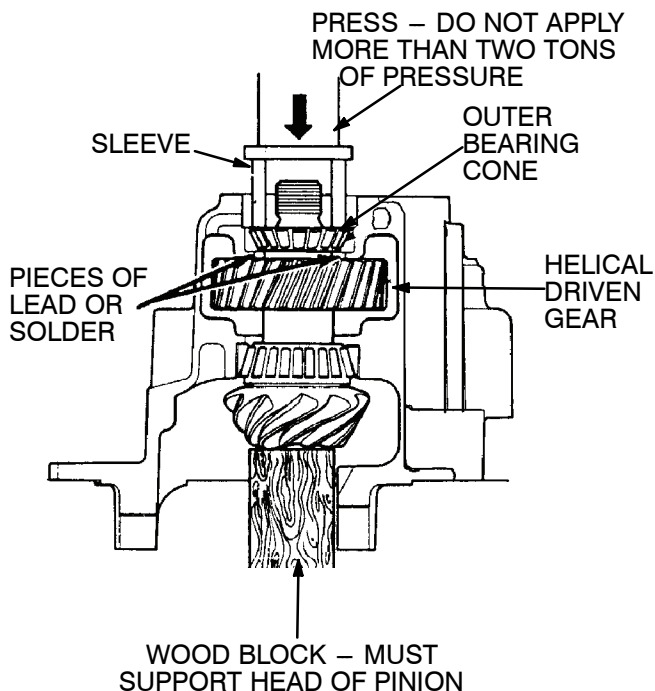

Figure 56.
- (1) Cut two lengths of bar lead or solder approximately 9/16" long and 5/8" thick. The lead pieces will be used as gauge blocks in determining thickness of spacer required between the helical driven gear and the outer bearing.
- (2) Position both pieces of lead or solder on top of the helical driven gear 180° apart. Position outer bearing cone over pinion shaft into the cup. Use a suitable sleeve on top of the outer bearing cone. Refer to Figure 56.
- (3) Remove the supports from the bottom of the carrier. Use a press to apply 2 tons of force to the outer bearing cone. The force of the press compresses the lead or solder pieces to the correct size. **DO NOT APPLY MORE THAN 2 TONS OF FORCE.** See Figure 56.